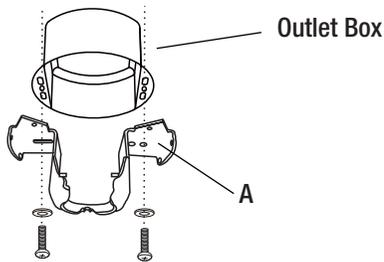

Figure 7
- Secure the mounting bracket (A) to the ceiling outlet box as shown in Figure 7 by using two screws and washers provided with the outlet box. Make sure the mounting bracket is flush with the ceiling. You may need to insert additional washers (not provided) between the outlet box and the mounting bracket to make it flush with the ceiling.